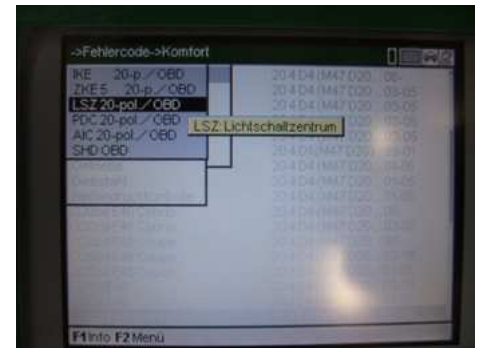

Fig. 1
1. Read out the fault code with an appropriate diagnostic tester. For this purpose, select the "Lichtschaltzentrum" (light switching centre) menu item after selecting the vehicle (see Fig. 1).